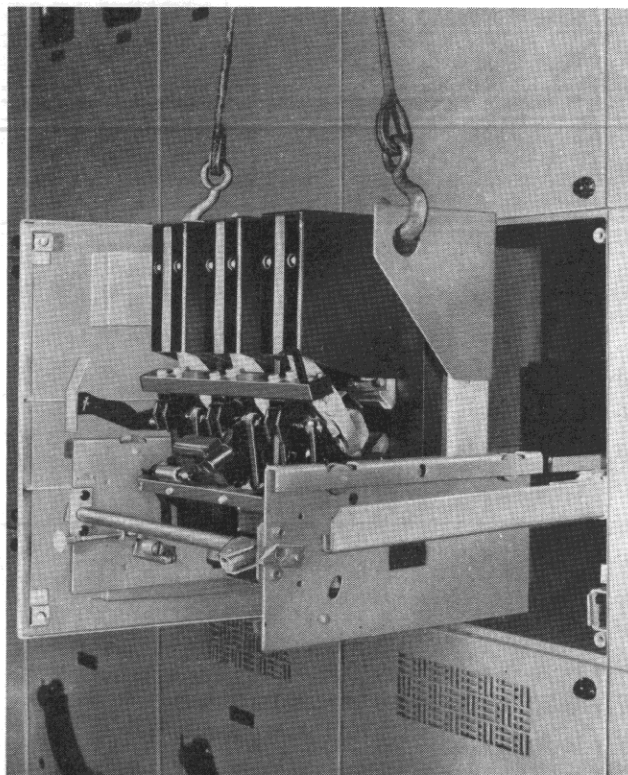

FIG. 14. Placing Removable Element in Compartment by use of a Hoist. Note that Rail Extensions and Lifting Brackets are in Place
The rail extensions, when required, are attached to the compartment rails for convenience in completely withdrawing the removable element from the compartment. For floor-wheeled removable elements mounted in the lower compartments, the rail extensions are not required. Fig. 14 illustrates the use of the lifting brackets and extension rails when handling a type DA-50 removable element with a hoist.
3. Lift the removable element and place it on the rail extensions as shown in Fig. 14.